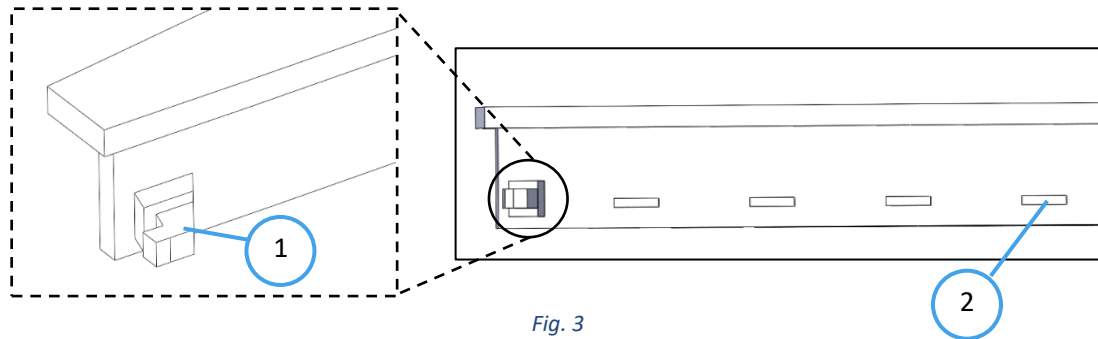

Fig. 3
4. Attach new front rubber blades, aligning the slots with the protrusions provided on the squeegee cartridge (Fig. 3).
7. Attach the new blade to the squeegee mount, aligning the hook (Fig. 3 – 1) and rubber slot to the blocks (Fig. 3 - 2).